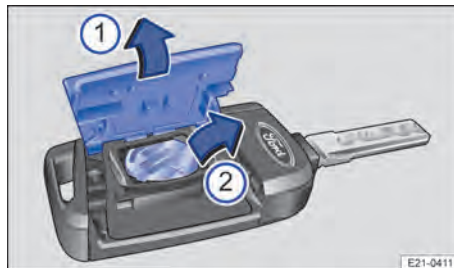

Fig. 50 Vehicle key: changing the button cell.
There are two options for changing the button cell in the vehicle key, depending on the equipment: → Fig. 50 and → Fig. 51.
2. Open the cover upwards → Fig. 50 ①.
3. Remove the button cell from the compartment ②.